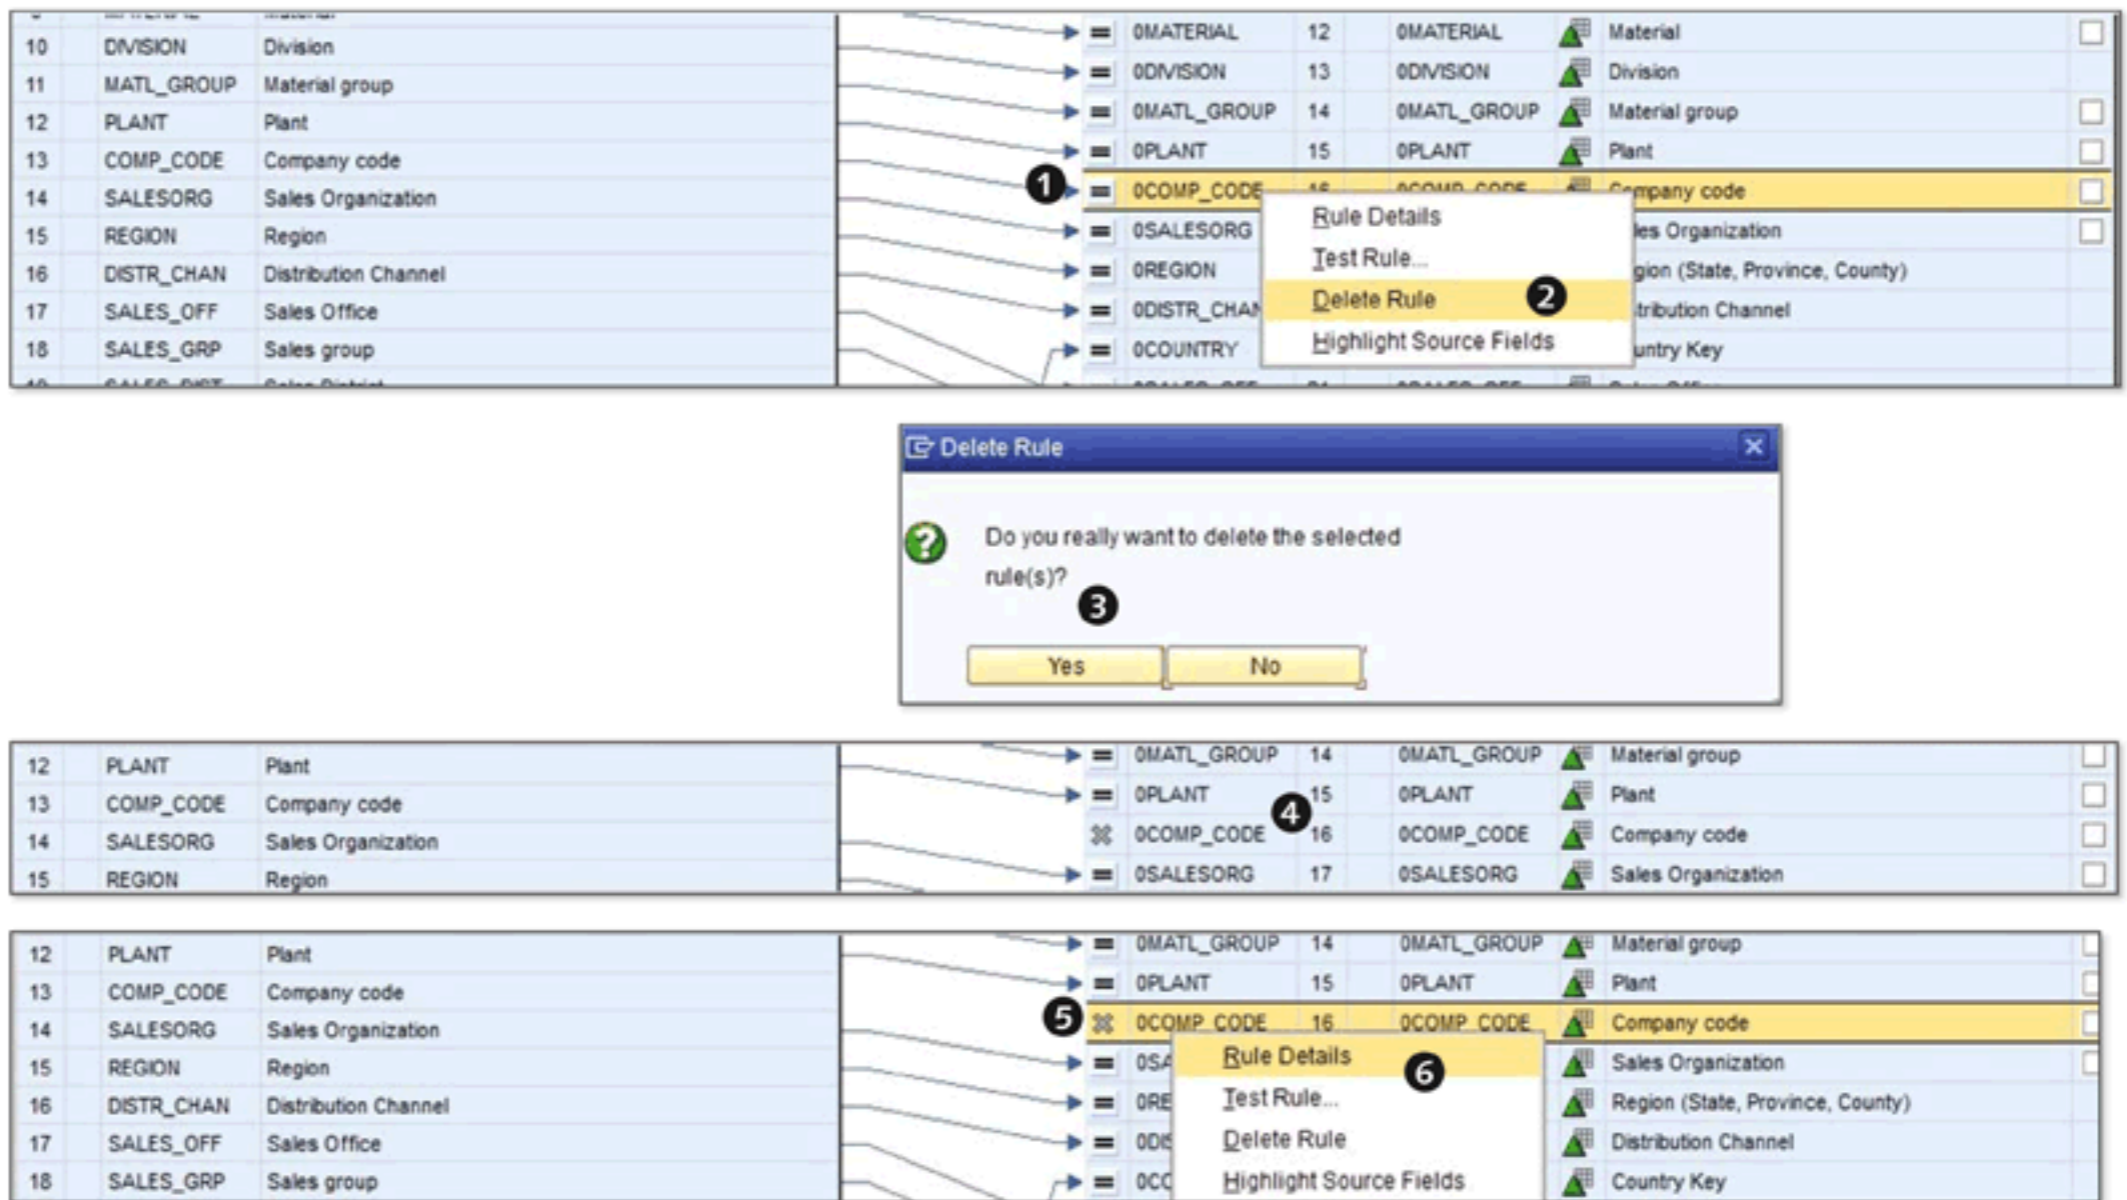

Figure 7.56 Deleting the Transformation Rule
As shown in ❶ of Figure 7.56, the COMP_CODE field is mapped to InfoObject 0COMP_CODE using a direct assignment transformation. We want to change the transformation type to *constant*, so our first step is to delete the proposed rule. Select InfoObject 0COMP_CODE as shown in ❶ of Figure 7.56, open the context menu, and select DELETE RULE (❷). Click on YES in the resulting pop-up box (❸). The X in ❹ of Figure 7.56 indicates that no rule is assigned to InfoObject 0COMP_CODE.